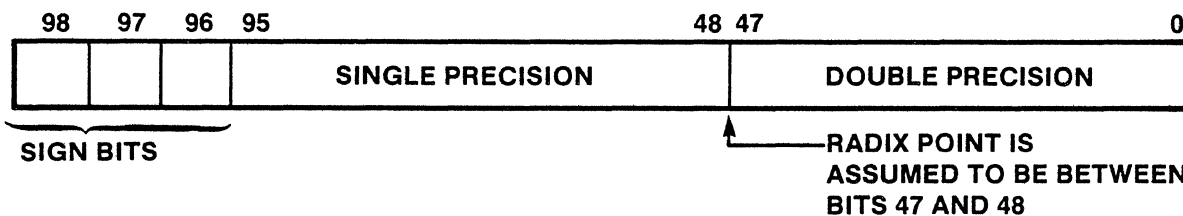

Figure 8-2. Example of Large Adder Register
Before looking at rules and examples, take a look at part of the big adder registers. For the purpose of computing floating point problems it will be 99 bits long. It will resemble figure 8-2 with the exception of only sign bits as shown below.
Figure 8-6 explains both of these cases. Look at Overflow first and item a(1) in figure 8-6. This shows the 3 upper sign bits as they were in figure 8-2. In this case it shows that both operands have positive coefficients so the sign bits are equal to zeros. Also there is no Borrow In from Bit 95 (B) so there will be no Overflow (OVERFLOW). Looking at the example in figure 8-3, assume the following operands.